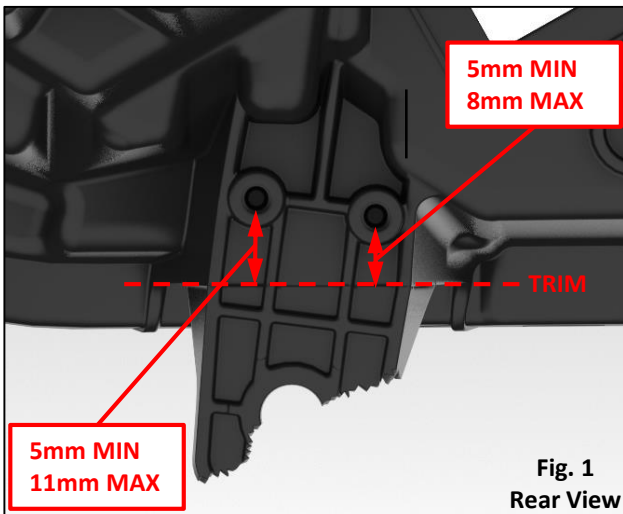
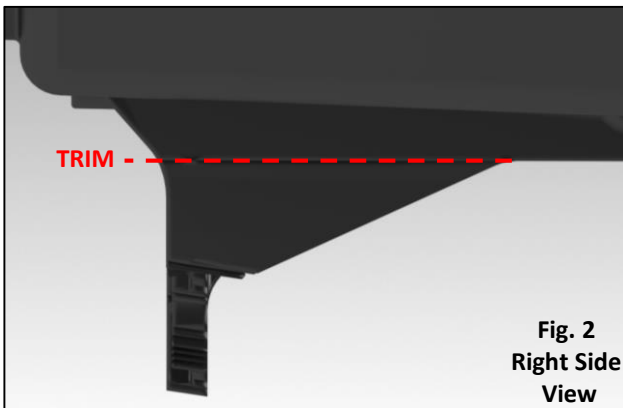

Fig. 1
Fig. 2
1. Trim: Using a cut-off wheel, trim the damaged tab to the **MAX** dimension whenever possible, **Fig. 1**. Make note of the trimming plane to which the **MAX** dimension refers, **Fig. 2**. The **MIN** indicates the least amount of material allowed for proper screw engagement. Next, Sand rough edges to remove excess material from trimming and to ensure a proper fit.